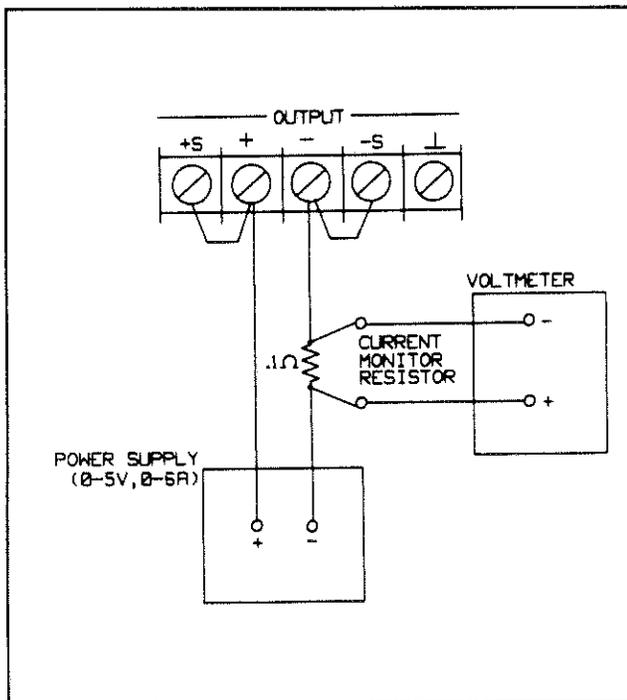

Figure 3-9. Negative Current Readback Accuracy, Test Setup
- Turn off the supply and connect the output to be tested as shown in Figure 3-9.